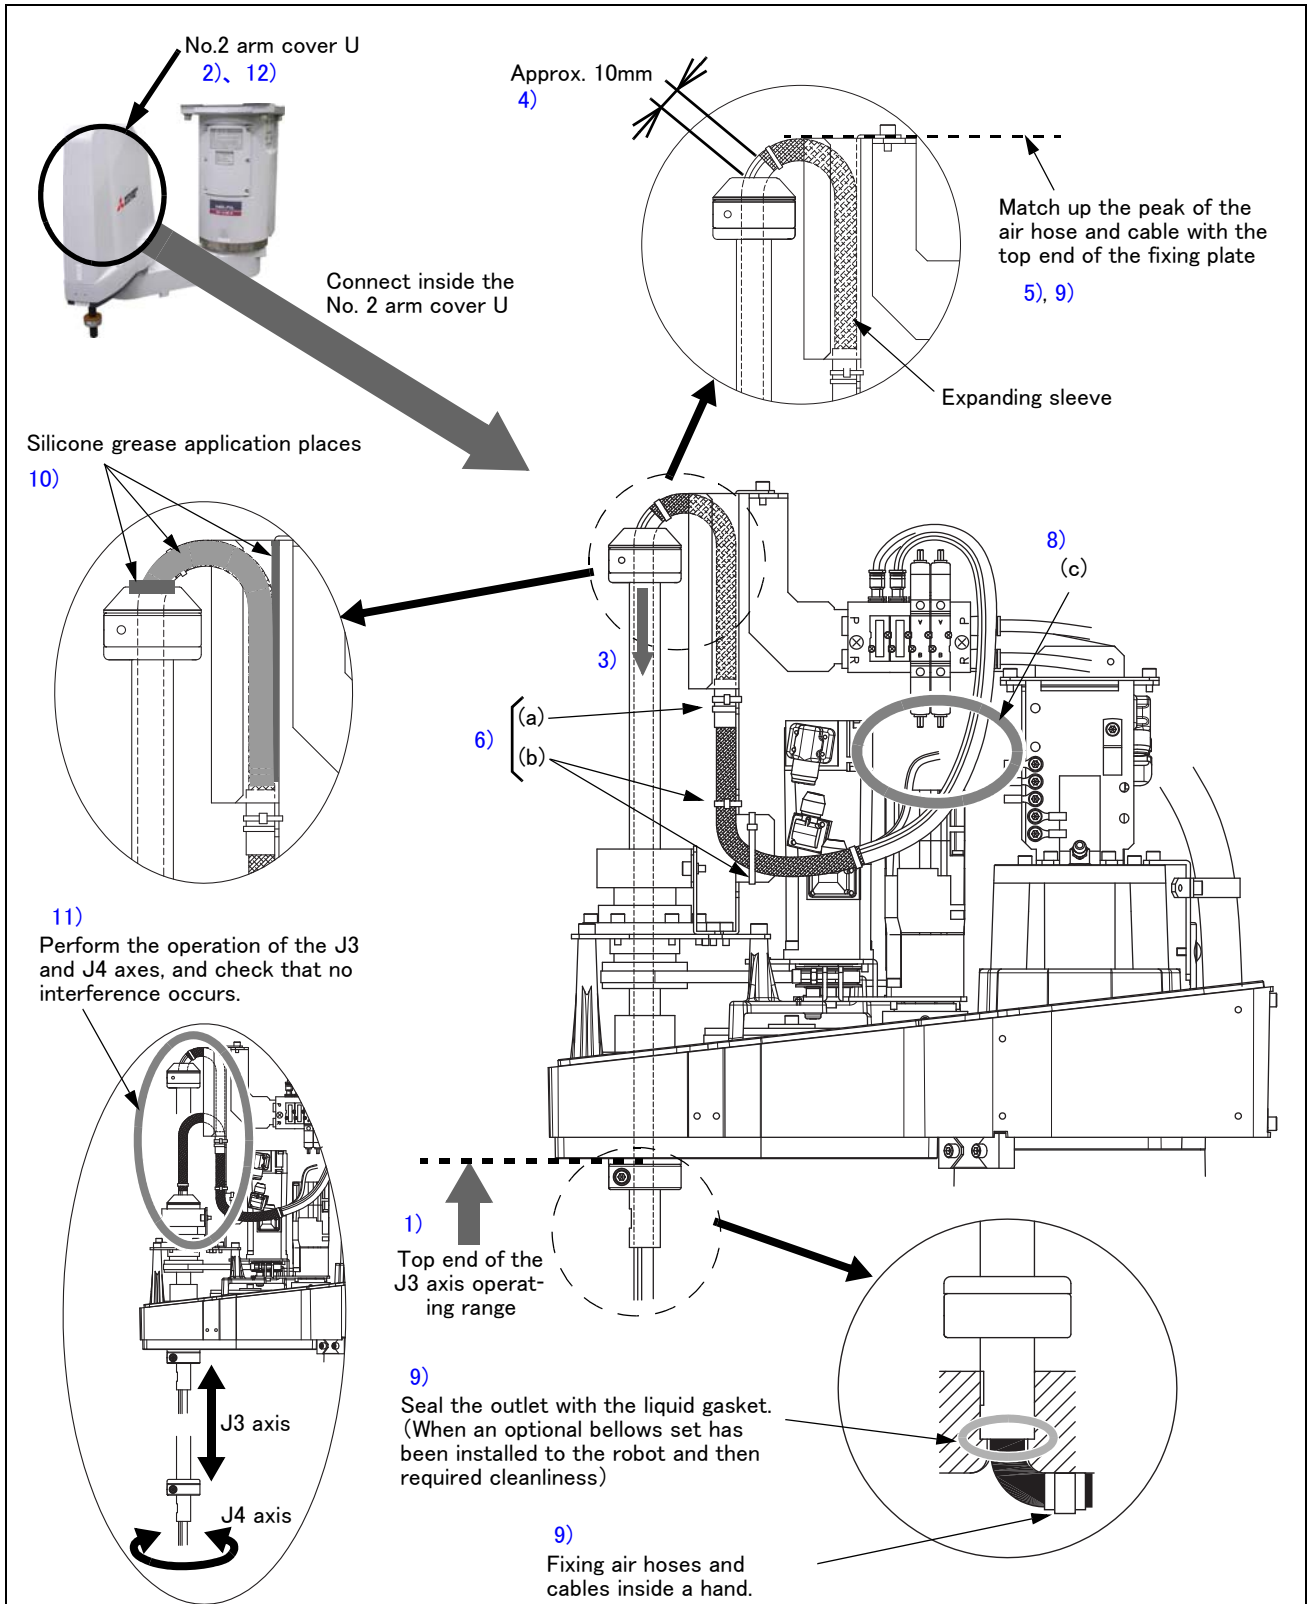

Fig.3-4 : Installing the hand internal wiring and piping set
Refer to the installation diagram shown from the next section, and perform the installation correctly. Installation diagram is shown in Fig. 3-4.
Refer to Page 55, "(1) Installation procedure" and install cables and air hoses correctly. The numbers in Fig. 3-4 are correspond to the same numbers in "(1)Installation procedure".